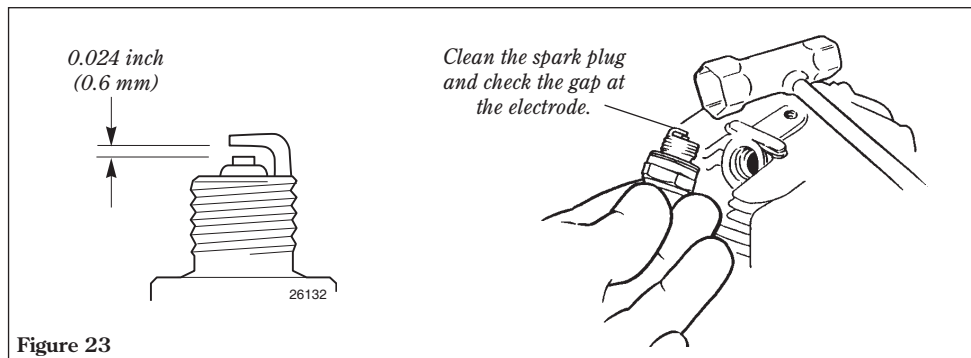

Figure 23
- Adjust the spark plug electrode gap to 0.024 inch (0.6 mm). If the plug must be replaced, use only a Champion CJ8Y or equivalent type of spark plug of the correct heat range. See Figure 23.